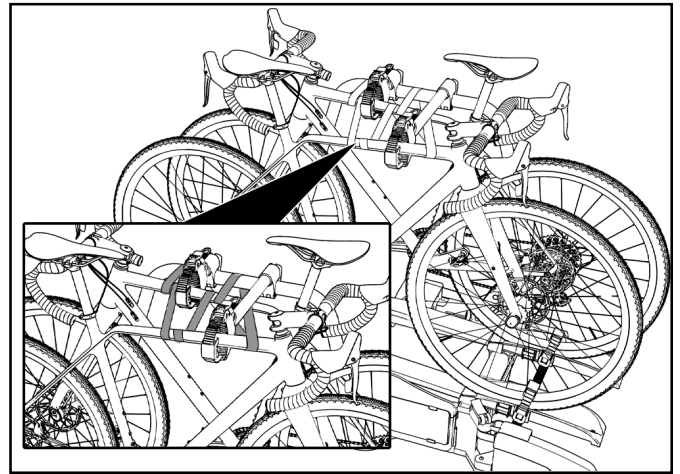

Figure 22: Attaching the seat belt
- ▶ Before the start of every journey, check the correct and firm attachment of the strap around the bikes and the Frame holder bracket of the carrier (see Figure 22).